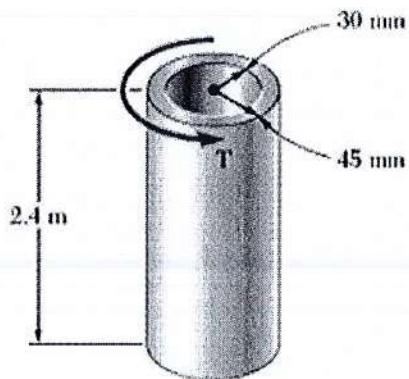

Figure 4b / Rajah 4b
- b) Determine the torque T that causes a maximum shearing stress of 45 MPa in the hollow cylindrical steel shaft as shown in **Figure 4b** and the corresponding minimum value of shearing stress in the shaft.